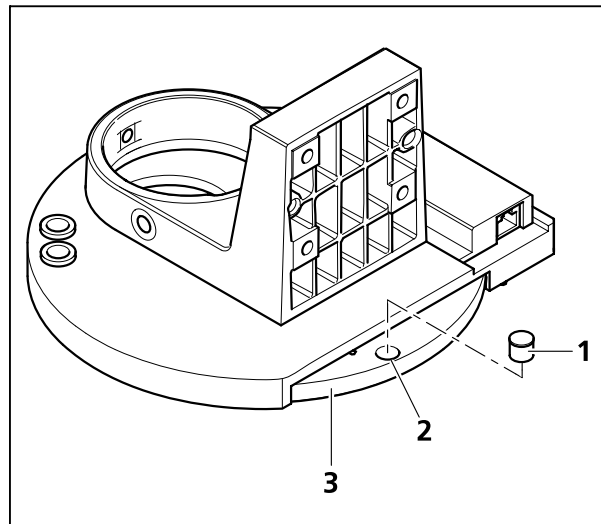

Fig. 33 Inserting a stopper
- Rotate the nosepiece plate (Fig. 33/3) accordingly to make the light opening (Fig. 33/2) of the corresponding nosepiece position accessible at the rear of the nosepiece.
- Put the stopper (Fig. 33/1) from above into the hole, with the taper hole of the stopper facing downwards.